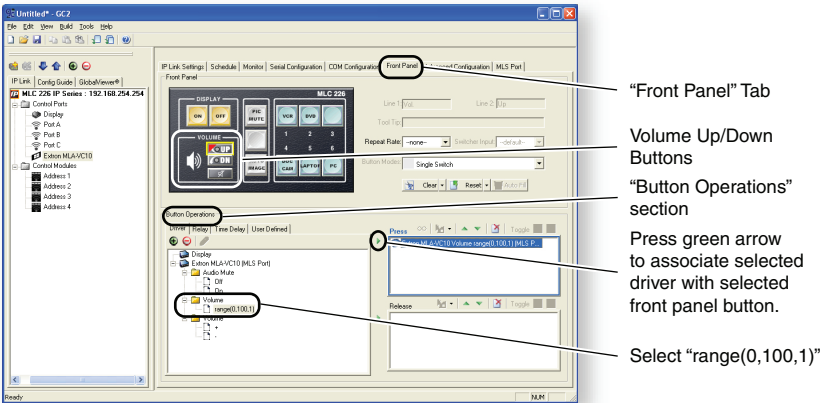

Figure 3-4 — Configuring the volume buttons
12. Select the **Front Panel** tab in the right pane and select the **Volume Up** button (see figure 3-4).